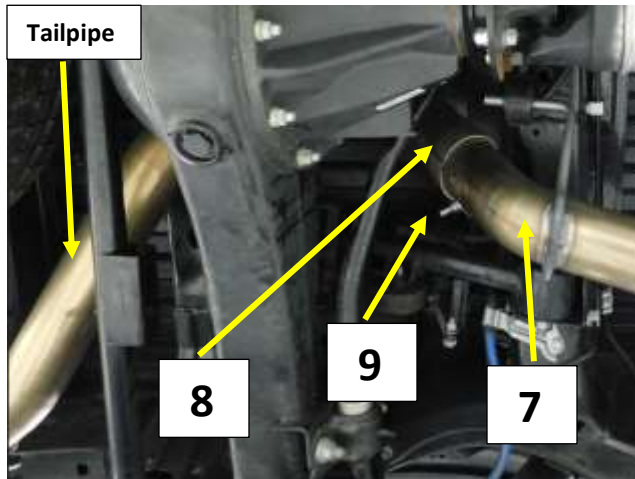

Figure 7
11. Install a 3" band clamp (9) on to the expanded end of the tailpipe (8) with the bolt on the outside and the nut facing the ground. Fig.7
12. Install the expanded end of tailpipe (8) over the axle and on to the muffler outlet pipe (7). Fig.7